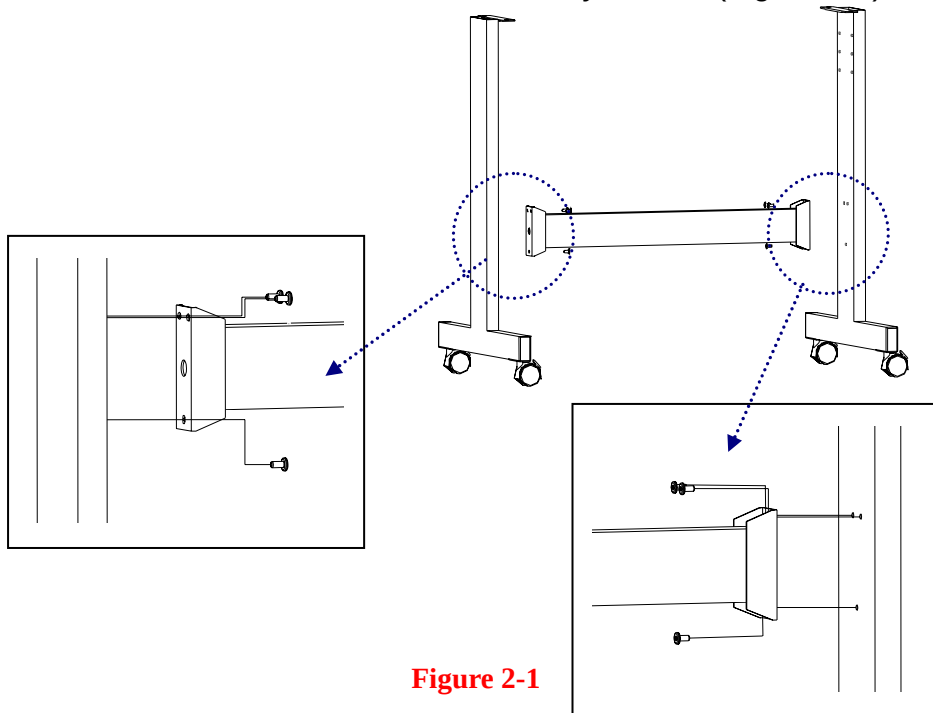

Figure 2-1
- Assemble the side stands and stand beam by screws (Figure 2-1)..